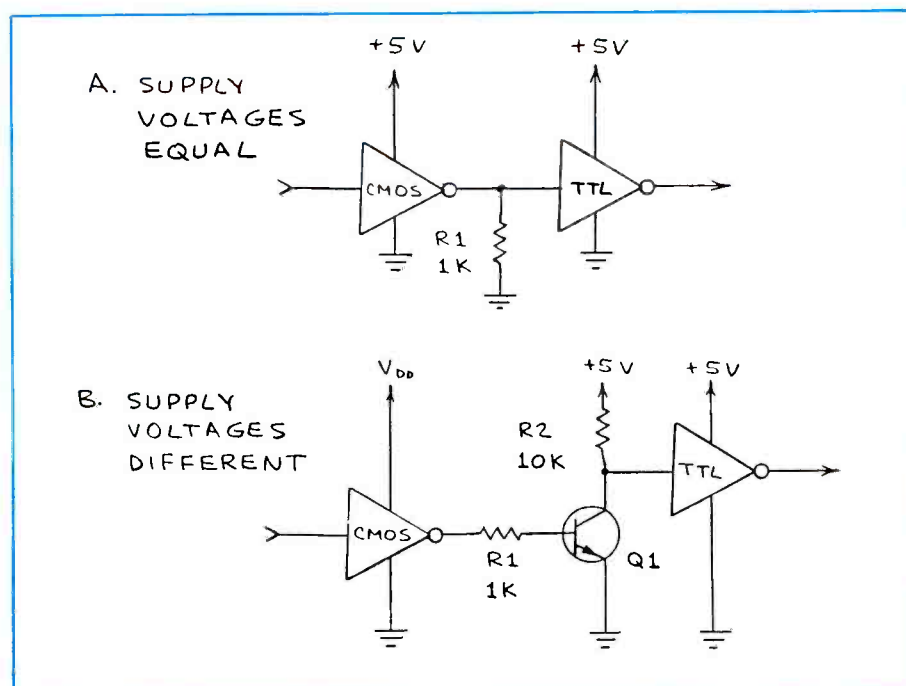

Fig. 2. Details for interfacing CMOS to TTL devices.
Some CMOS logic chips, like the 4049 hex inverter, are designed to directly drive TTL logic. A fast way to interface a CMOS logic circuit with a TTL circuit is to insert a 4049 between the two circuits. If this method isn't convenient, Fig. 2(A) shows a possible alternative in which a pull-down resistor is used. When the CMOS is powered by more than the 5 volts that powers the TTL gate, the transistor stage shown in Fig. 2(B) can be used.
Fig. 2. The Micro Softener Chip from Dallas Semiconductor allows a processor of choice to reload programs or data through the serial port and crash-proof and "soften" the system.
sor's serial port, without even opening the system (see Fig. 2). This feature allows a product to take advantage of software improvements over its life because information can be updated without changing chips.